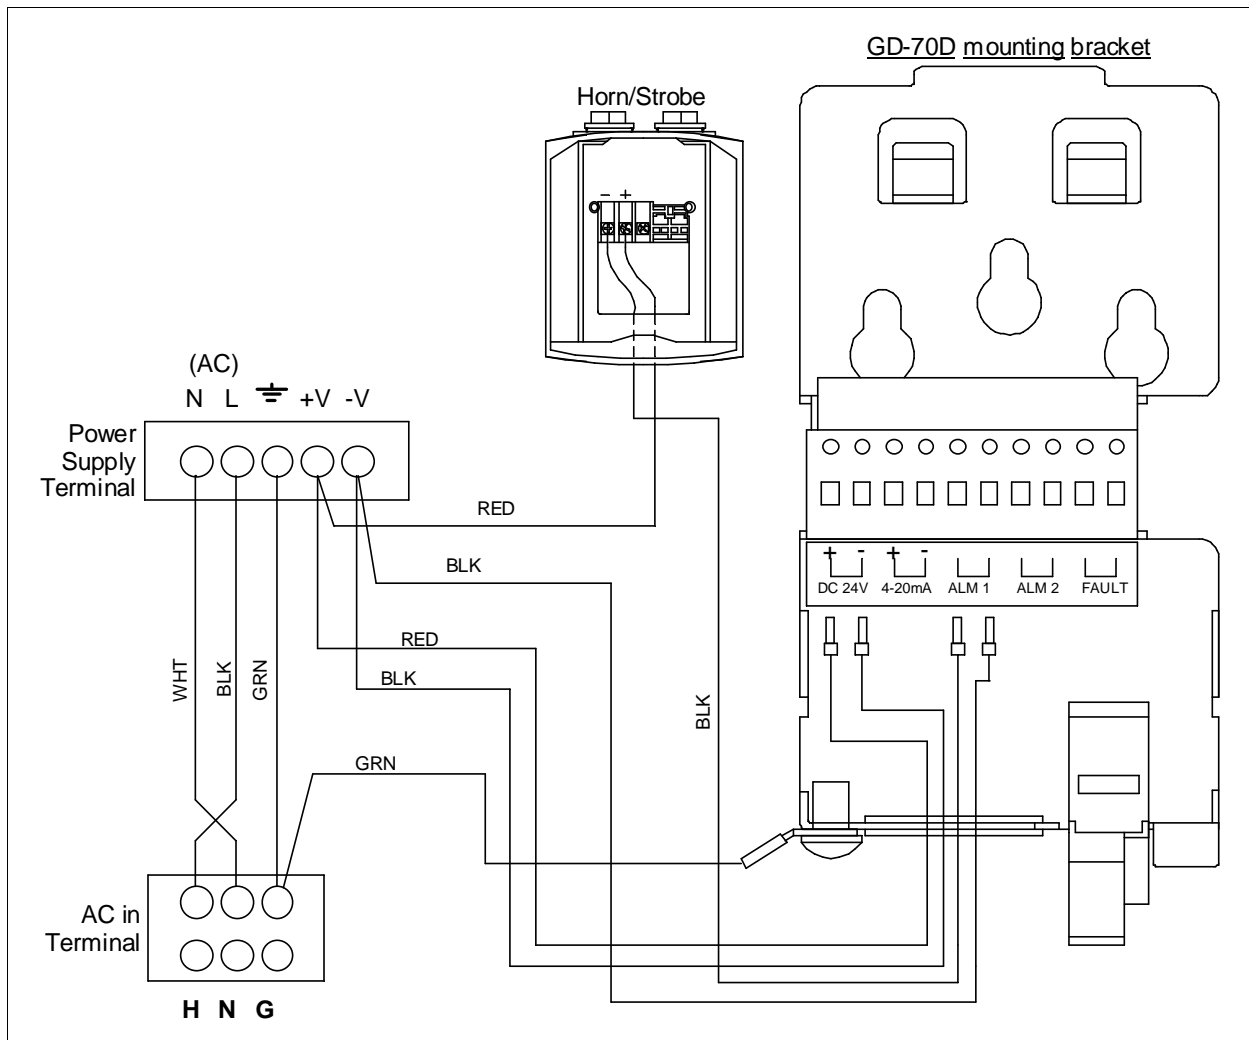

Figure 5: Factory Wiring
- Factory wiring is shown below in Figure 5.